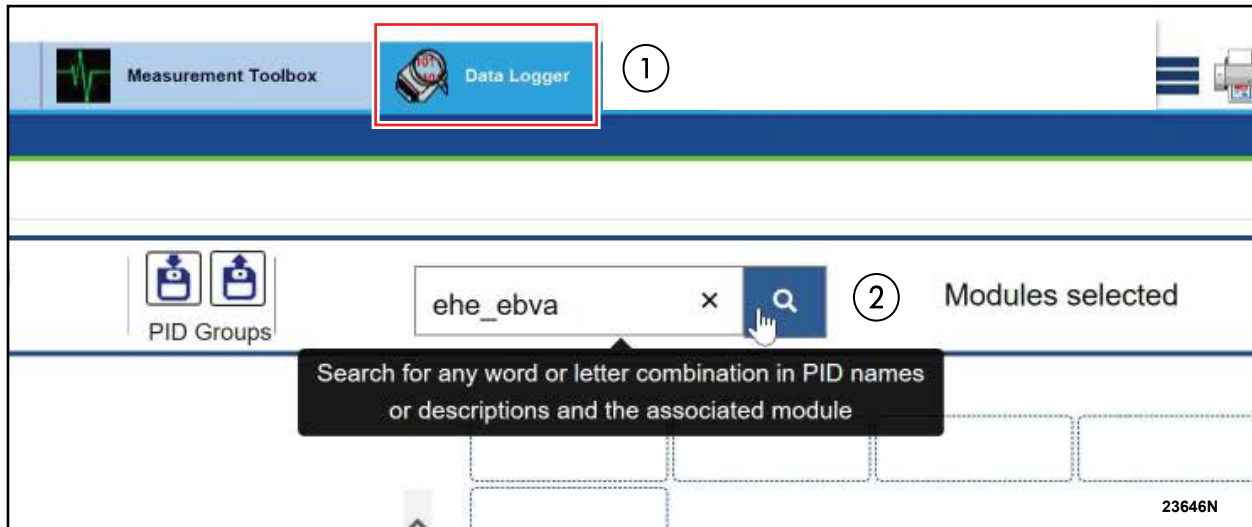

FIGURE 14
2. In the PID Search bar type: *ehe_ebva*, then click the Search Icon. See Figure 14.